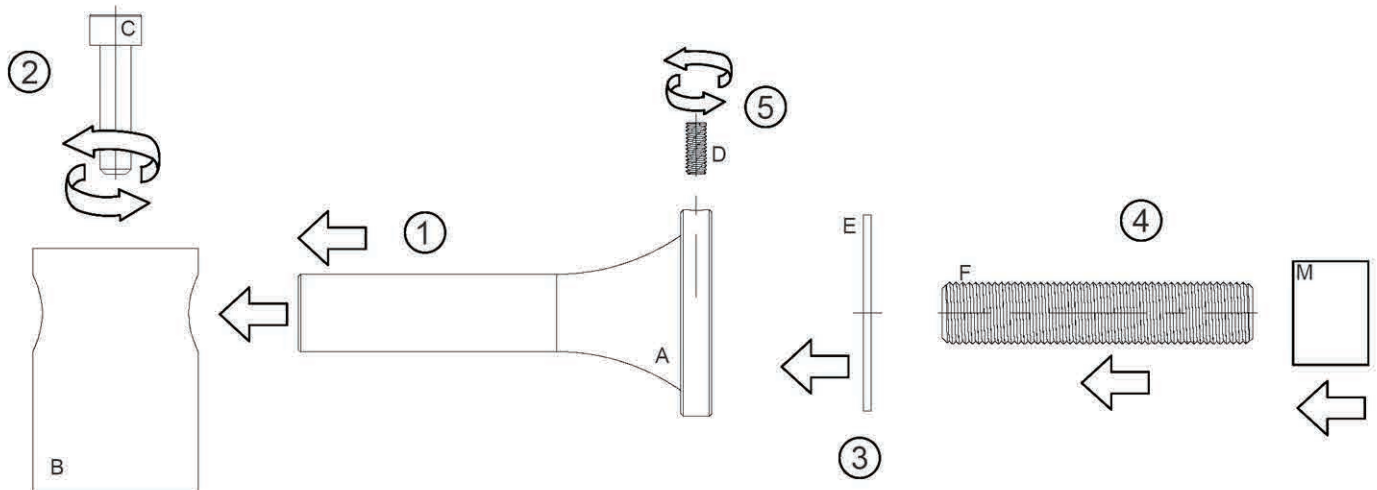

FIG. 1
- ① INSERT CONE ROD (A) TO CONNECTION ROD (B) (SEE FIG. 1)
- ② THEN INSERT THE HEX SOCKET CAP SCREW (C) TO CONNECTION ROD (B) (SEE FIG. 1)
- ③ PUT WASHER (E) TO CONE ROD (A) (SEE FIG.1)
- ④ INSERT STAINLESS THREAD STUD (F) TO CONE ROD (A) (SEE FIG.1)
- ⑤ INSERT SOCKET SET SCREW (D) TO CONE ROD (A) (SEE FIG.1)